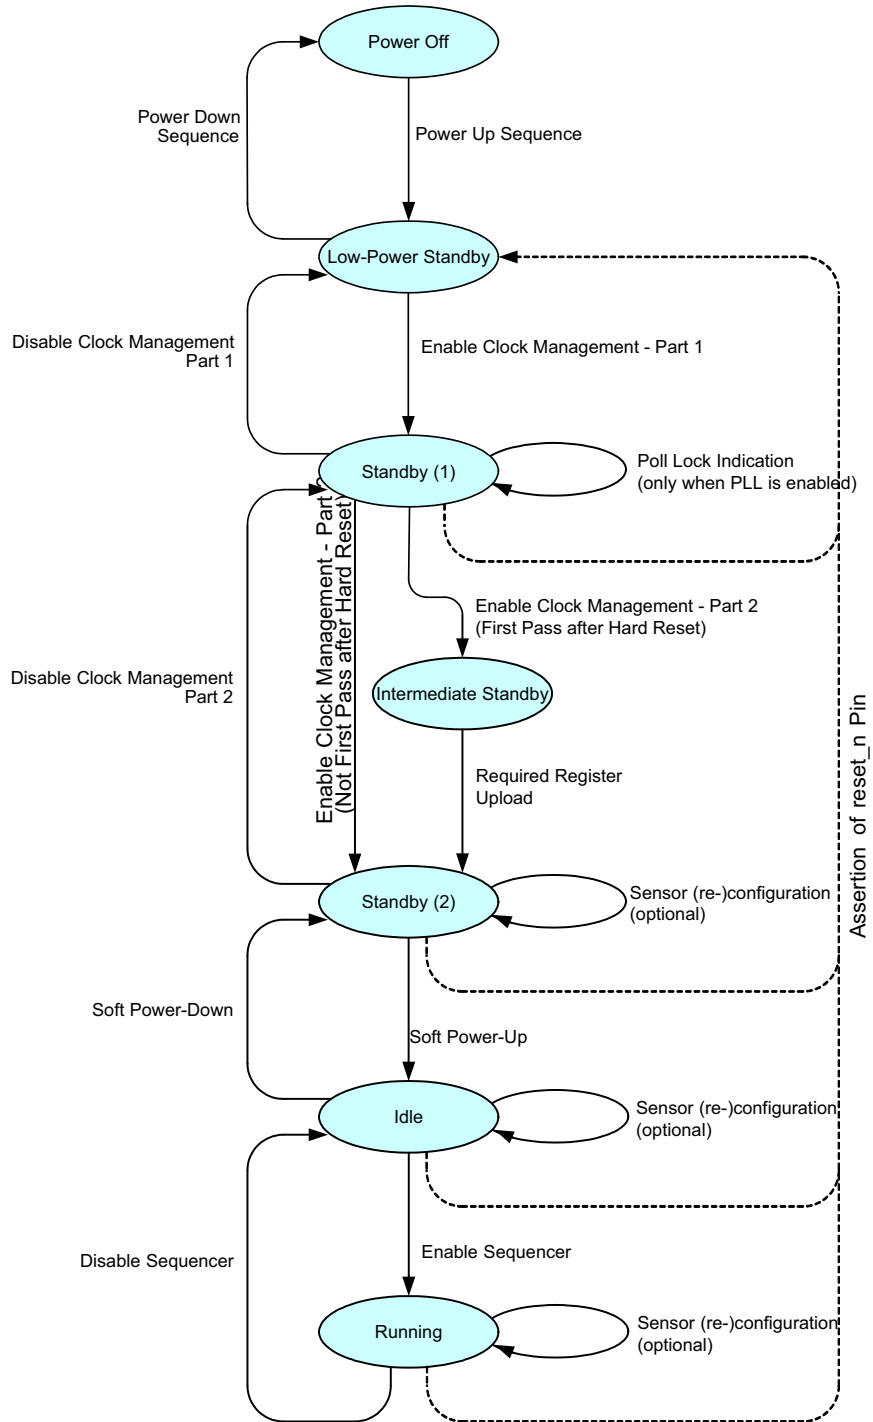

Figure 17. Sensor Operation Flowchart
Figure 17 shows the sensor operation flowchart. The sensor has six different 'states'. Every state is indicated with the oval circle. These states are Power off, Low power standby, Standby (1), Standby (2), Idle, Running.
Check the PLL_lock flag 24[0] by reading the SPI register. When the flag is set, the 'Enable Clock Management- Part 2' action can be continued. When PLL is not used, this step can be bypassed as shown in Figure 17 on page 16.